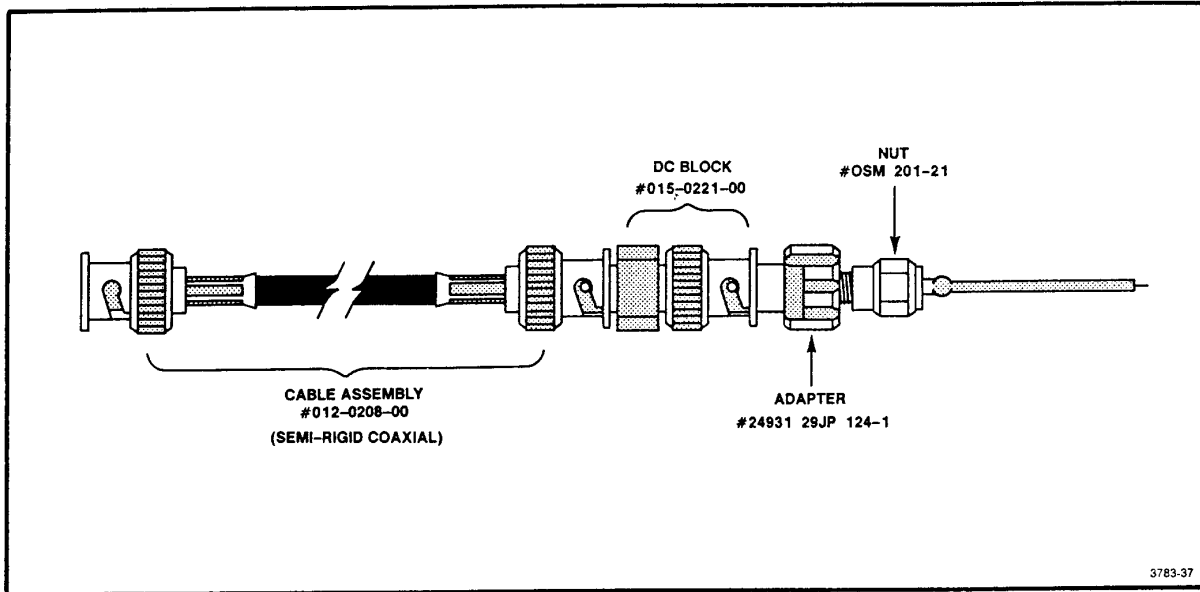

Fig. 4-20. Construction of a coaxial test probe for the 2182 MHz Phaselocked 2nd LO.
a. Use a probe, consisting of a short length of semi-rigid coaxial cable with a dc block (see Fig. 4-20), to connect the output of the reference mixer (C204) to the input of the test spectrum analyzer. Ground the outershield of the coaxial cable against the 2nd LO housing.
When making power measurements of microwave circuits at circuit board interfaces, use a coaxial probe with very little stray inductance (see Fig. 4-20). Ground the outer conductor of the probe to the circuit housing within a few tenths of an inch of the measurement point. Disconnect other circuit loads from the measurement point.